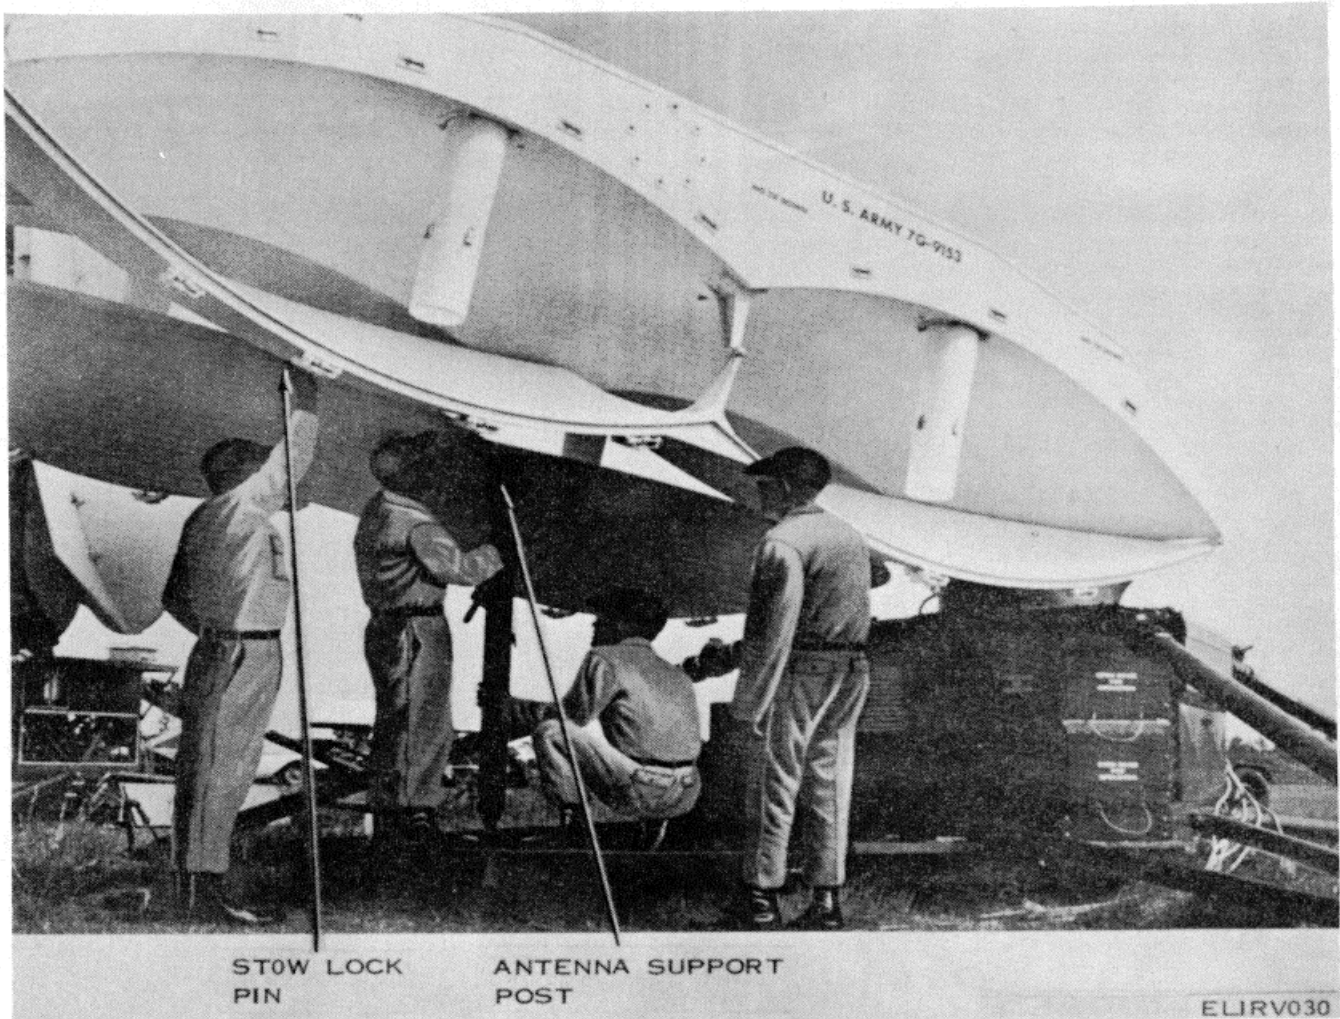

Figure 2-16. Mast raising for opening antenna side sections.
f. Remove the upper stowlock pin on the antenna dish, leave the bottom pin secure. Detail one man to stand by the antenna support post as shown in figure 2-16.